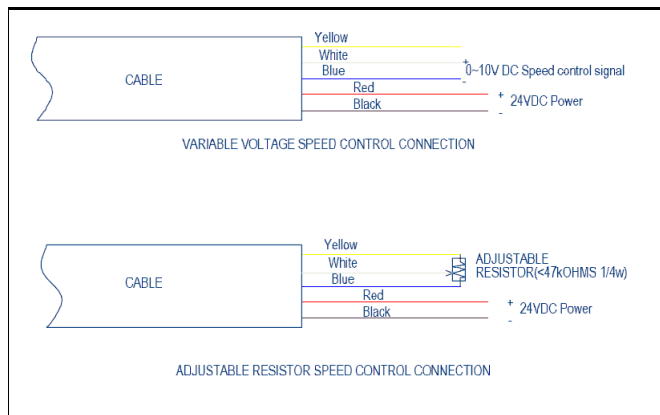

Figure 4 Adjustable Speed Control Connection
- ❑ Connect the white to the positive and the blue to the negative (Figure 4).